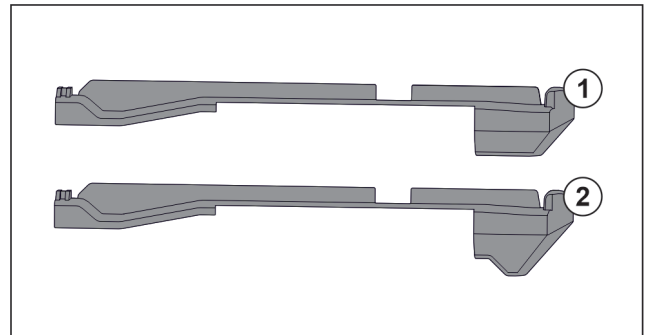

Fig. 56 Comparing attachments
There are two different attachments in the appliance. The attachment above the lowest drawer Fig. 56 (2) has a three-cornered edge. All other attachments Fig. 56 (1) have a straight edge.
- ▶ Fit attachment Fig. 56 (2) with the three-cornered edge above the lowest drawer.
- ▶ Fit attachment Fig. 56 (1) with straight edge in all other positions.